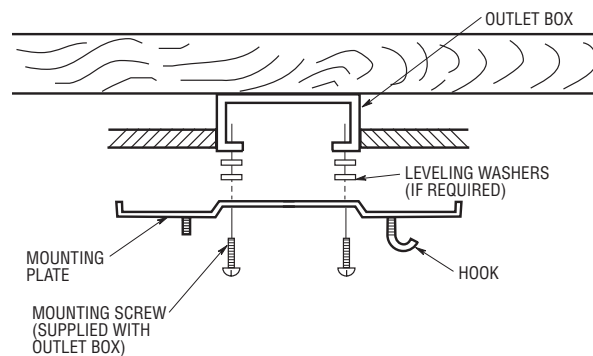
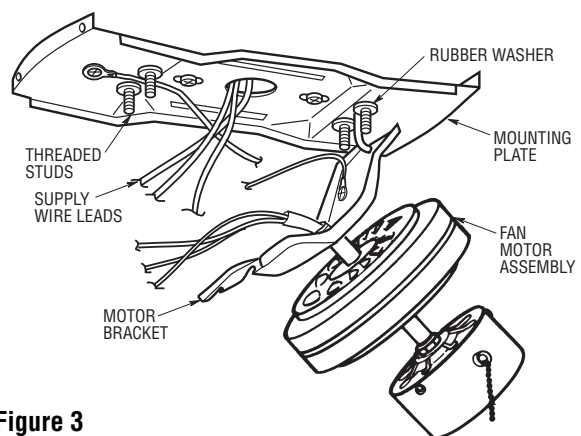

Figure 2
Figure 3
NOTE: For better fan performance make sure the mounting plate is level. Additional washers (not included) may be needed to insert between the electrical box and mounting plate (Figure 2).
1. Securely attach the mounting plate to the outlet box (Figure 2) using two screws (supplied with outlet box). Pull the black, white and ground wires out of the outlet box through the hole in the mounting plate and lay them to the side as shown in Figure 3.
2. Carefully lift the fan motor assembly and engage the slot in the motor bracket with the hook on the mounting plate so that it is securely suspended (Figure 3). Then connect wiring to your fan according to section "HOW TO WIRE YOUR CEILING FAN".